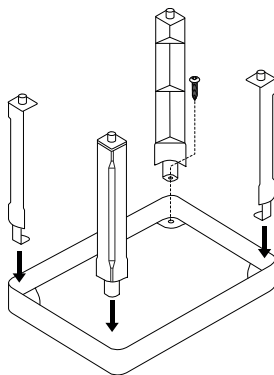

Figure 1
1. Screw legs into the top of the bottom shelf using four screws. (See Figure 1)